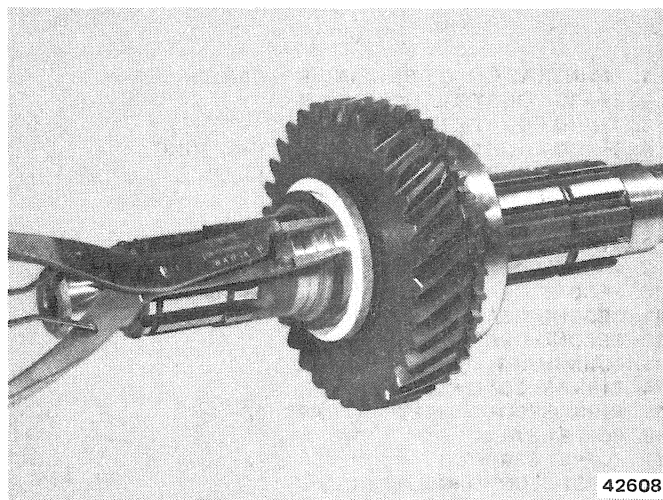
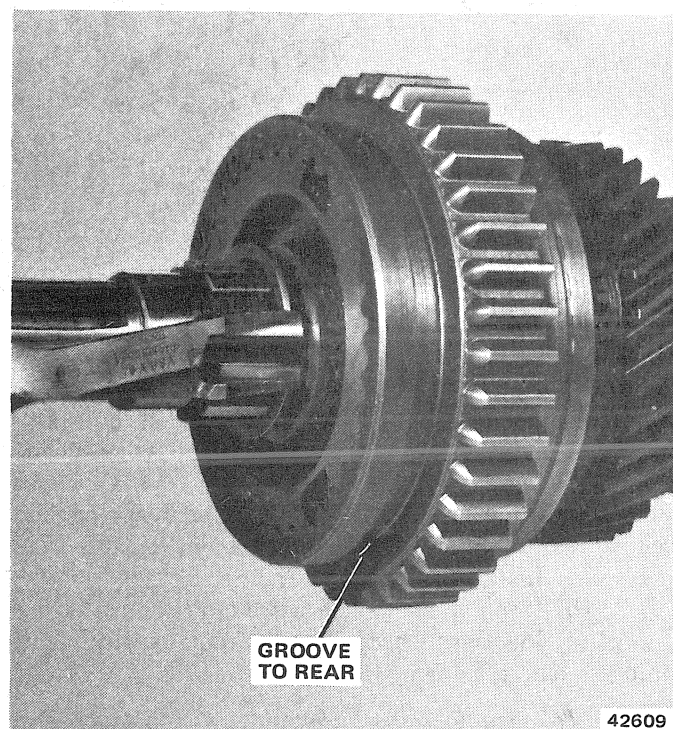

Fig. 2B-47 Second Gear and Thrust Washer Installation
Fig. 2B-48 First-Second Synchronizer Installation
- (1) Install second gear from front of mainshaft (fig. 2B-47).
- (2) Install second gear thrust washer so step bore in washer faces front end of mainshaft.
- (3) Install second gear snap ring. Be sure thrust washer step bore fits over snap ring.
- (4) Install second gear rear snap ring, blocking ring, first-second synchronizer assembly and snap ring from rear of mainshaft.
**NOTE:** The first-second synchronizer clutch sleeve shift fork groove must face the rear of the mainshaft (fig. 2B-48).
(5) Install third gear on mainshaft and install blocking ring on gear.
(6) Install third-fourth synchronizer assembly on mainshaft (fig. 2B-42).